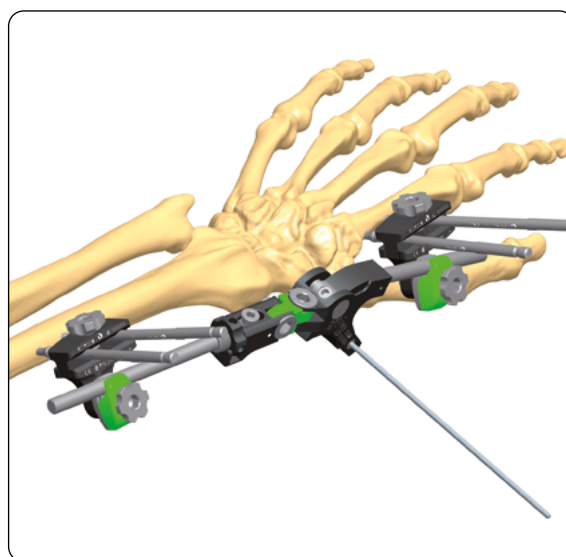

Fig. 21
- Remove the screw guides and close the clamp cover by hand (**Fig. 21**).